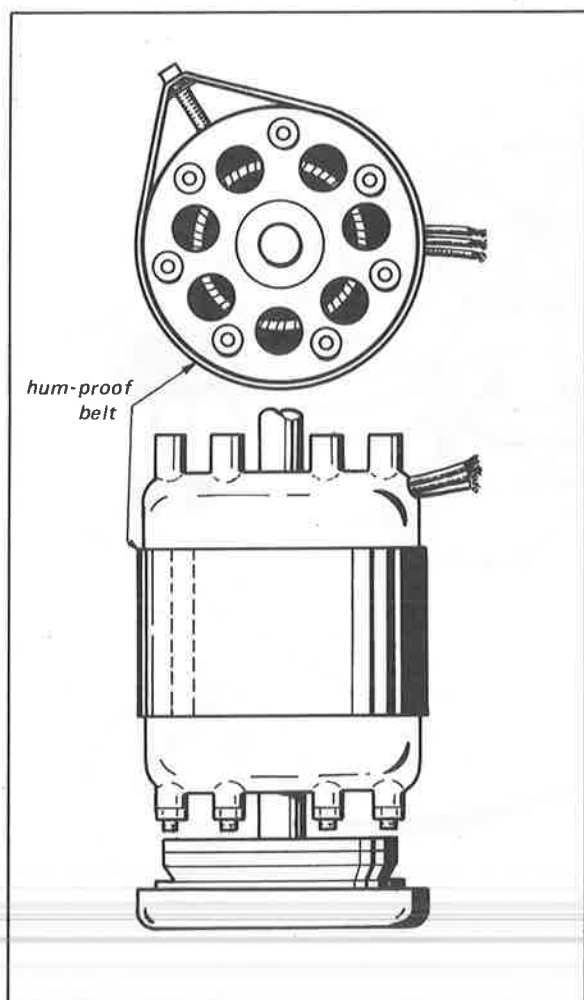

Fig. 4-18. Installation of the motor hum belt
9. Install the hum belt on the new motor. Position the mounting screws as shown in Fig. 4-18. Make sure that the hum belt straddles the two end bells equally.